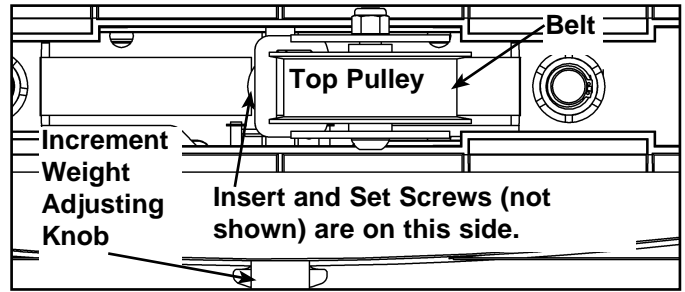

Figure 9 (top view from pulley down to belt clamp)
- B. Carefully lift top weight and verify that the position of the belt clamp (on the top weight) is aligned properly with the top pulley bracket (on the machine). See Figure 9.